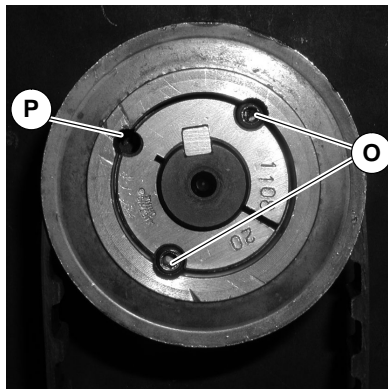

Figure 19
- b. Loosen taper set screws (O of Figure 19) on the driven pulley. Remove one set screw and insert in open hole (P). Tighten until pulley slides off drive shaft.